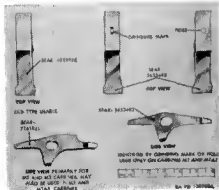

Figure 52. Sear — usable types.
- (3) Where comparators are not available inspect sears carefully. The nose should have a "fine grind" surface and should have a small radius at the point where it contacts the sear surface of the hammer. The surface at the extreme rear and should be flat ground and the lower corner or edge should be sharp. Some sears 6200978 have been properly ground at each end and are usable. In this connection reference is made to Fig. 52, which is correct as far as it goes but is not complete. Sears 5658483 with the grind quality were manufactured without either of these identifying marks and these also should be used if otherwise serviceable. The important point is to assure that all sears used are those on which the nose and rear end are properly ground as mentioned above. Questionable sears should be retained in the shop until a sizable quantity is accumulated, whereupon disposition instructions should be requested of Chief of Ordnance, Washington 25, D.C., ATTENTION: ORDFM. This does not mean that all of the sears that can be determined unserviceable by visual inspection should be retained.
- (4) Check sear for movement on trigger pin. Sear should rotate freely about pin and have backward and forward movement due to elongated pinhole but should have no vertical play. Check pinhole for excessive wear.